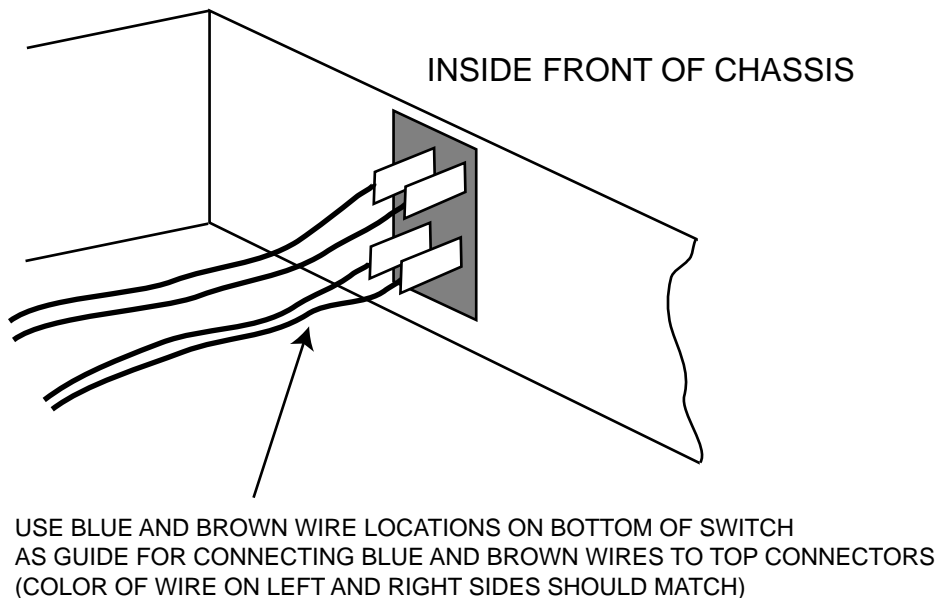

Figure 2
12. Connect the power spade connections from the power supply AC harness to the front panel switch as follows and as shown in Figure 2: